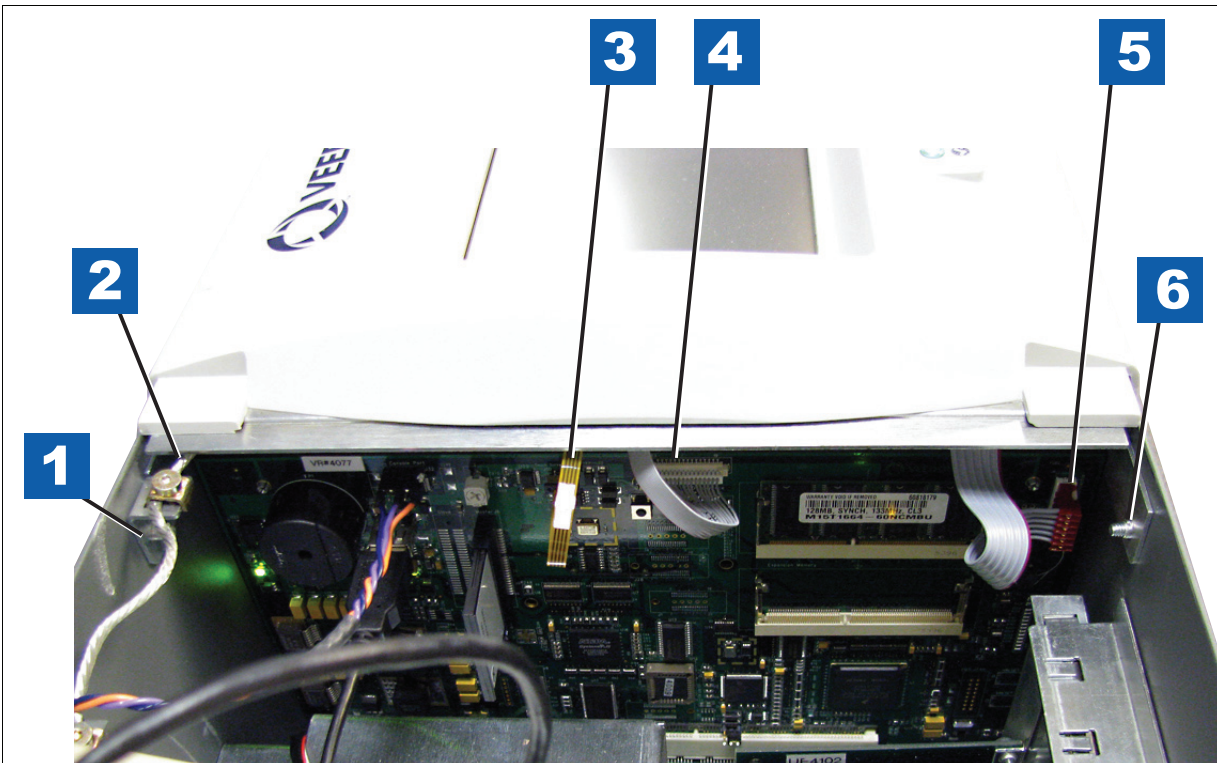

Figure 3. Display door cables
| Figure 3. | Display door cables | 5 |
4. Disconnect the three cables from the Display door attached to the CPU board touchscreen connector, the display data connector and the LED/Display connector (see Figure 3).
Legend for numbered boxes in Figure 3
8. Reconnect the three cables from the Display door to their connectors on the CPU board (see Figure 3).
4. Disconnect the two cables from the Printer door (see Figure 3).